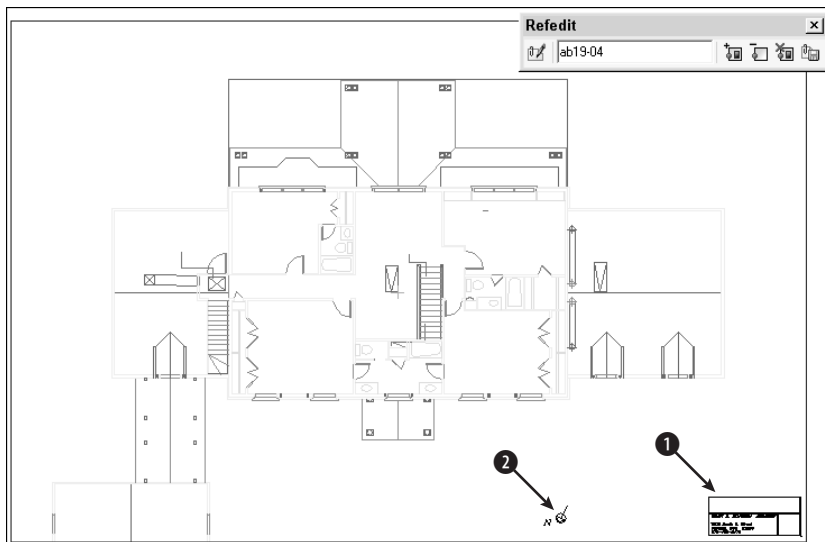

Figure 19-7: The title block is an xref in the drawing of the floor plan.
4. Double-click the title block. AutoCAD opens the Reference Edit dialog box. Choose `ab19-04.dwg`. It is displayed in the preview box. Click OK. AutoCAD opens the Refedit toolbar. You can now edit the xref. Your screen should look like Figure 19-7.
6. Choose Draw ⇨ Text ⇨ Single Line Text. At the Specify start point of text or [Justify/Style]: prompt, pick ❶ in Figure 19-7. At the Specify height <0'-0 3/16">: prompt, type 10 ↵. Press Enter again for the rotation angle.
9. Select the letter N and arrow symbol at ❷ in Figure 19-7. To transfer these objects from the xref to the floor plan drawing, choose Remove (transfer) objects from working set from the Refedit toolbar.